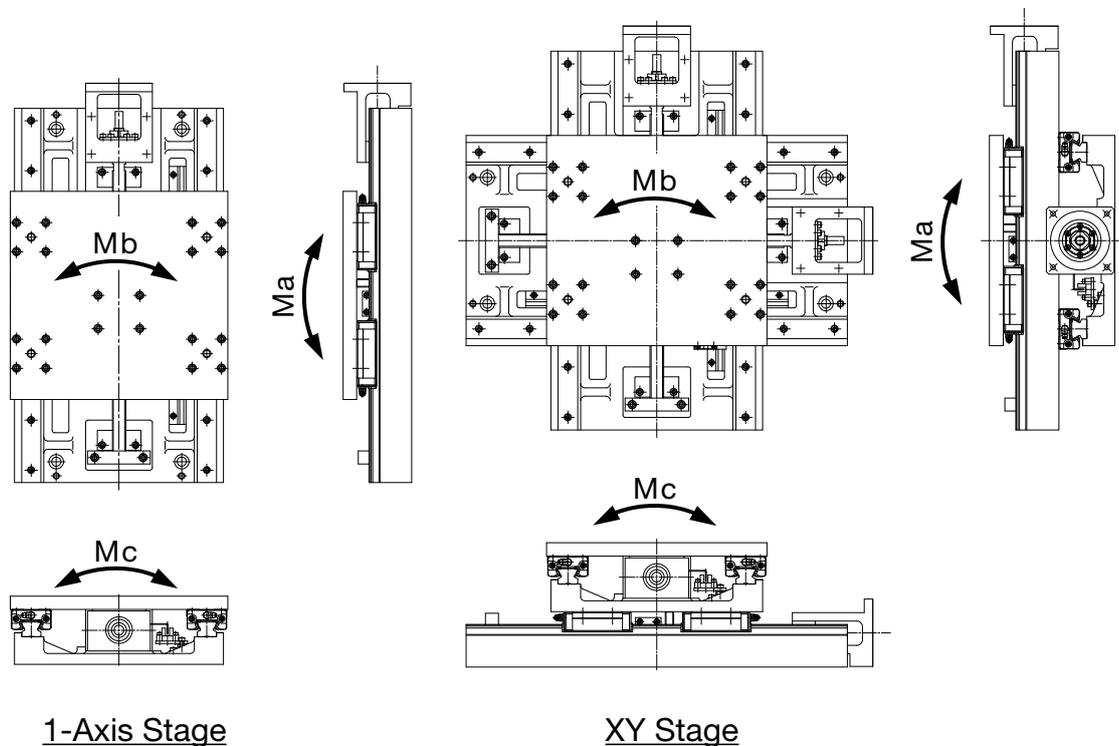

Fig. 8 Static permissible moment direction
- Basic static load rating and static permissible moment are shown in Table 5. As well, static permissible moment direction is shown in Fig. 8.